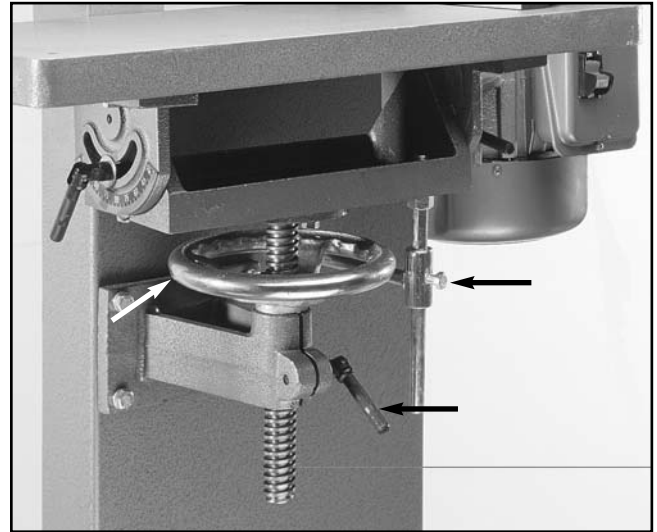

Figure 21. Table height adjustments.
1. Loosen lead screw lock handle and stabilizing shaft lock bolt. **Figure 21.**